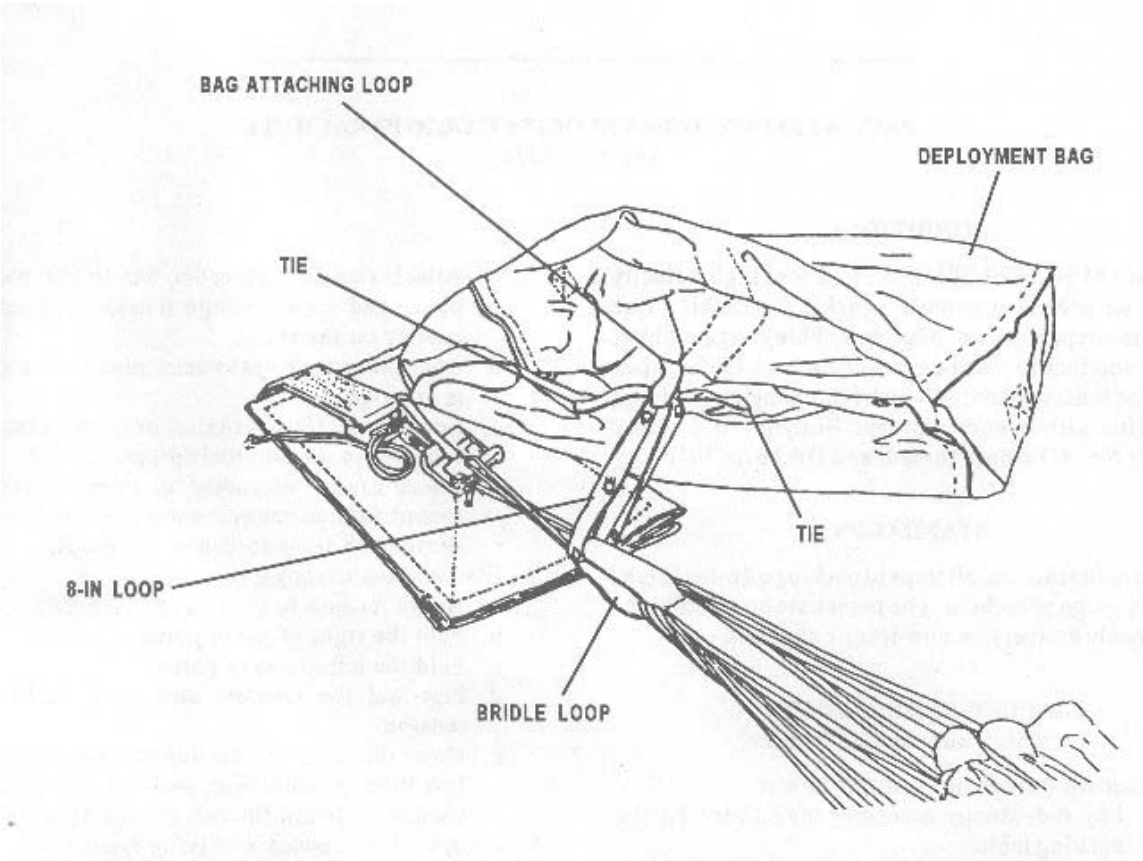
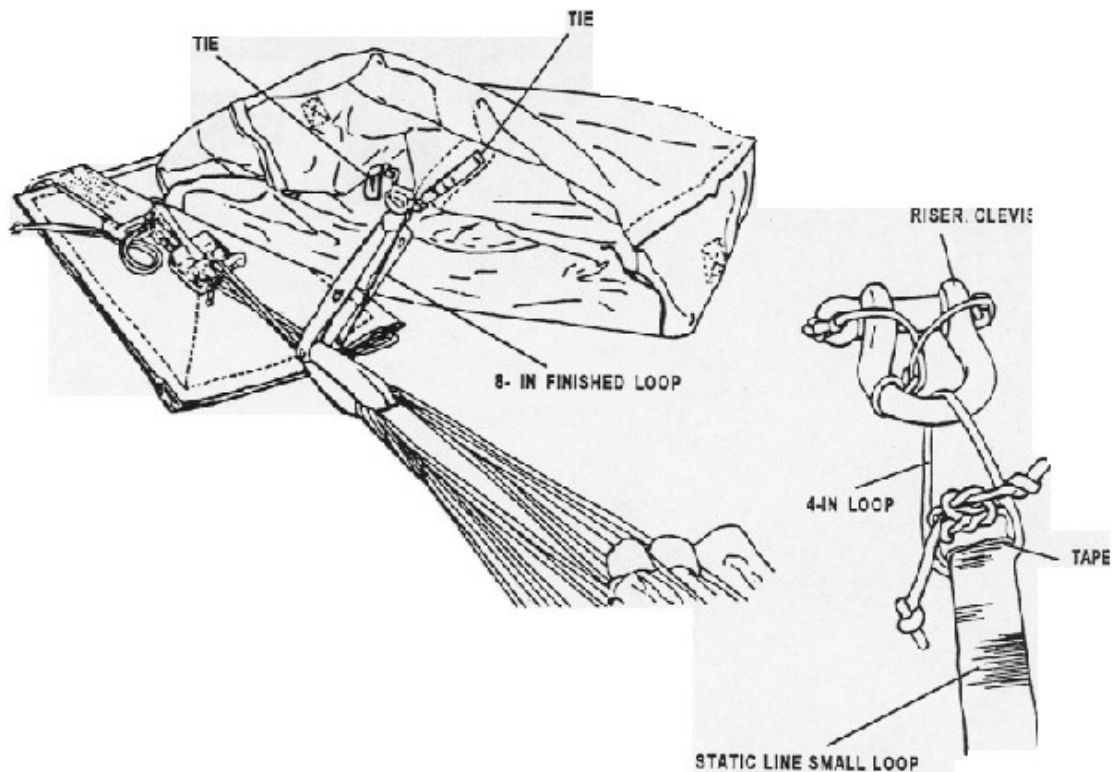

Figure 3-16
Figure 3-17
- (1) Cut a 30-inch length of 1/2-inch tubular nylon webbing.
- (2) Position the deployment bag attaching loop next to the canopy bridle loop forming an 8-inch loop. (See Figure 3-16)
- (3) Remove the riser clevis from the small loop of the static line.
- (4) Pass the large loop of the static line through the deployment bag main strap attaching loops.
- (5) Pass the opposite end of the static line through the large loop. Draw the formed loop tight against the main strap attaching loop.
- (6) Tape the small loop of the static line.
- (7) Cut an 18-inch length of type III nylon cord and remove the core threads.
- (8) Attach the riser clevis to the static line with type III nylon cord; forming a 4-inch loop. (See Figure 3-17)